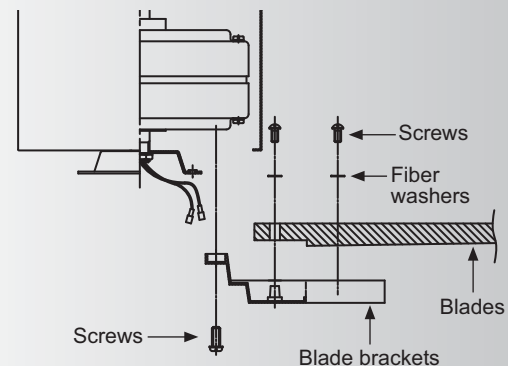

Fig. 17
Step 1. Attach a blade to a blade bracket using the screws and fiber washers provided. (Fig.17)
Step 2. Attach each blade assembly to the motor using the "Pre-Installed" mounting screws in the blade bracket. (Fig 17)